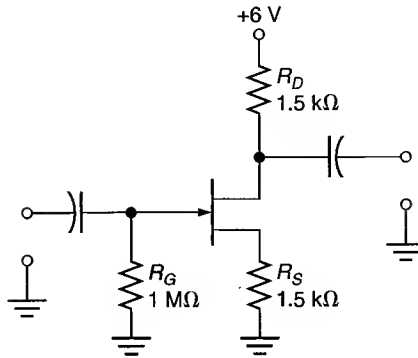

FIGURE 12.59
22. Determine the ranges of V_{GS} , I_D , and V_{DS} for the circuit shown in Figure 12.59. Assume the JFET is a 2N3437 (which is described in Problem 11).